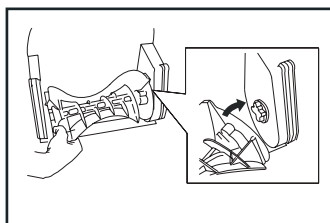

Fig. 14
Reinstall the big pulley plate and align it with the other end of the paddles. After fitting the paddles into position, secure the big pulley plate with the three (3) screws (Fig. 14).